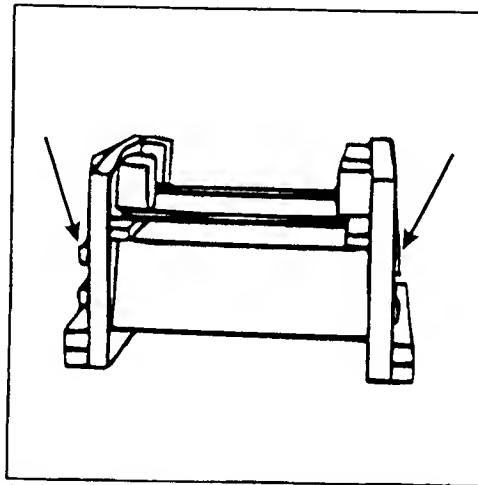

Figure 2-9. Remove Sound Shroud. Step d.
- d. Grasp the foam end caps and lift to remove the shroud and wire form assembly from the box. Place it on a flat surface to disassemble (see Figure 2-9).